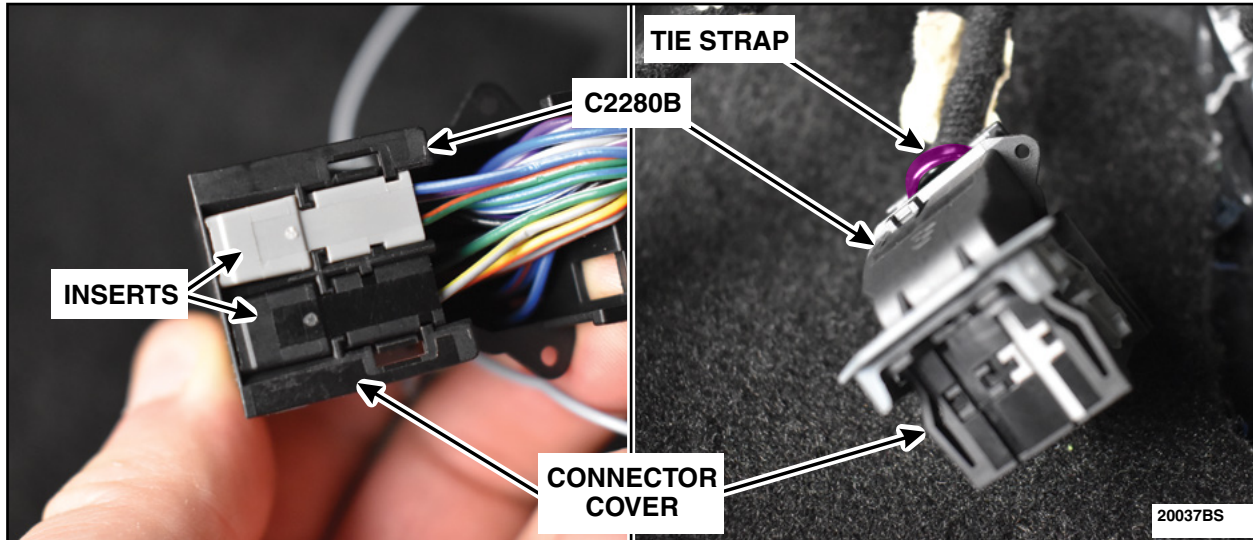

FIGURE 40
58. Locate the Black (BK) wire from the relay. Apply heat shrink tubing and seal the end of the BK wire. Wrap the wire up and secure it to the relay using electrical tape.
59. Reinstall the inserts into the connector cover. Secure using a new tie strap and trim any excess. See Figure 40. Reconnect C2280B to the BCM.